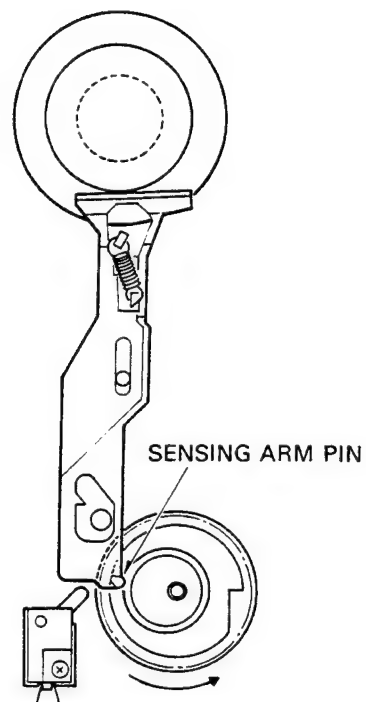
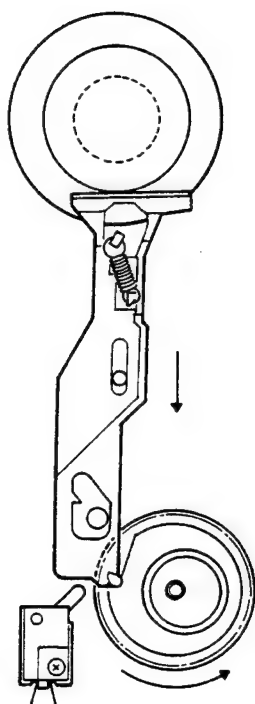
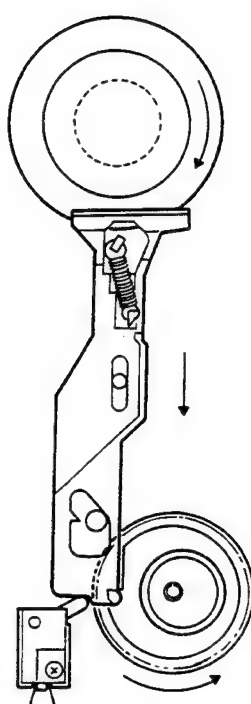

Fig. 11
Fig. 12
Fig. 13
- (2) the torque limiter bush stops rotation at ATSC or tape end, and a pin of sensing arm is pushed toward the outermost side by the sensing cam gear. Frictional force between the felt and bush helps the sensing arm holding its position. (Fig. 11)
- (3) When the sensing cam gear is turned further, with the sensing arm held in a state shown in Fig. 11, the sensing arm pin is caught by a hook of the cam gear. (Fig. 12)
- (4) The sensing cam gear turns further from the state shown in Fig. 12, and the sensing arm moves to turn ON the sensing switch. (Fig. 13)